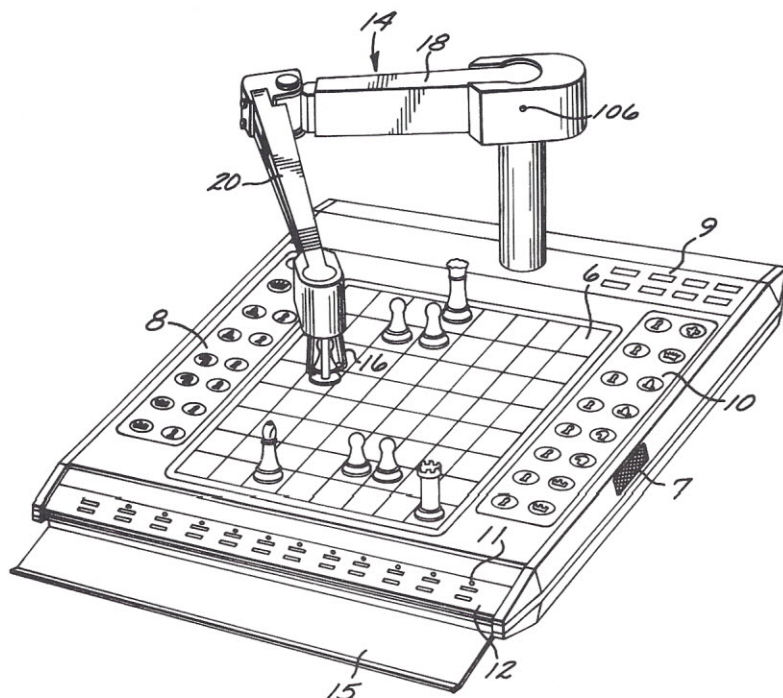

Figure 1. A perspective view of the chess-playing robot system.
The Game Board and Controls. Figure 1 shows a perspective view of the robot computer chess game. A housing (2) includes a chess board and a pair of chess storage areas. A keyboard is positioned next to the chess board and provides a way to control the operation of the device. An articulated robot arm is mounted next to the board. The gripper mounted at the end of the arm has several fingers for gripping the chess pieces.